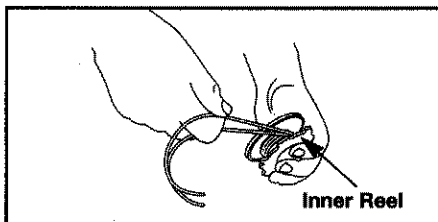

Fig. 17
2. Place your index finger between the two lines to stop the lines from overlapping (Fig. 17).
3. Wind the lines, in even and tight layers, onto the reel (Fig. 17). Wind the line in the direction indicated on the inner reel. Be sure not to overlap the two ends of the line.